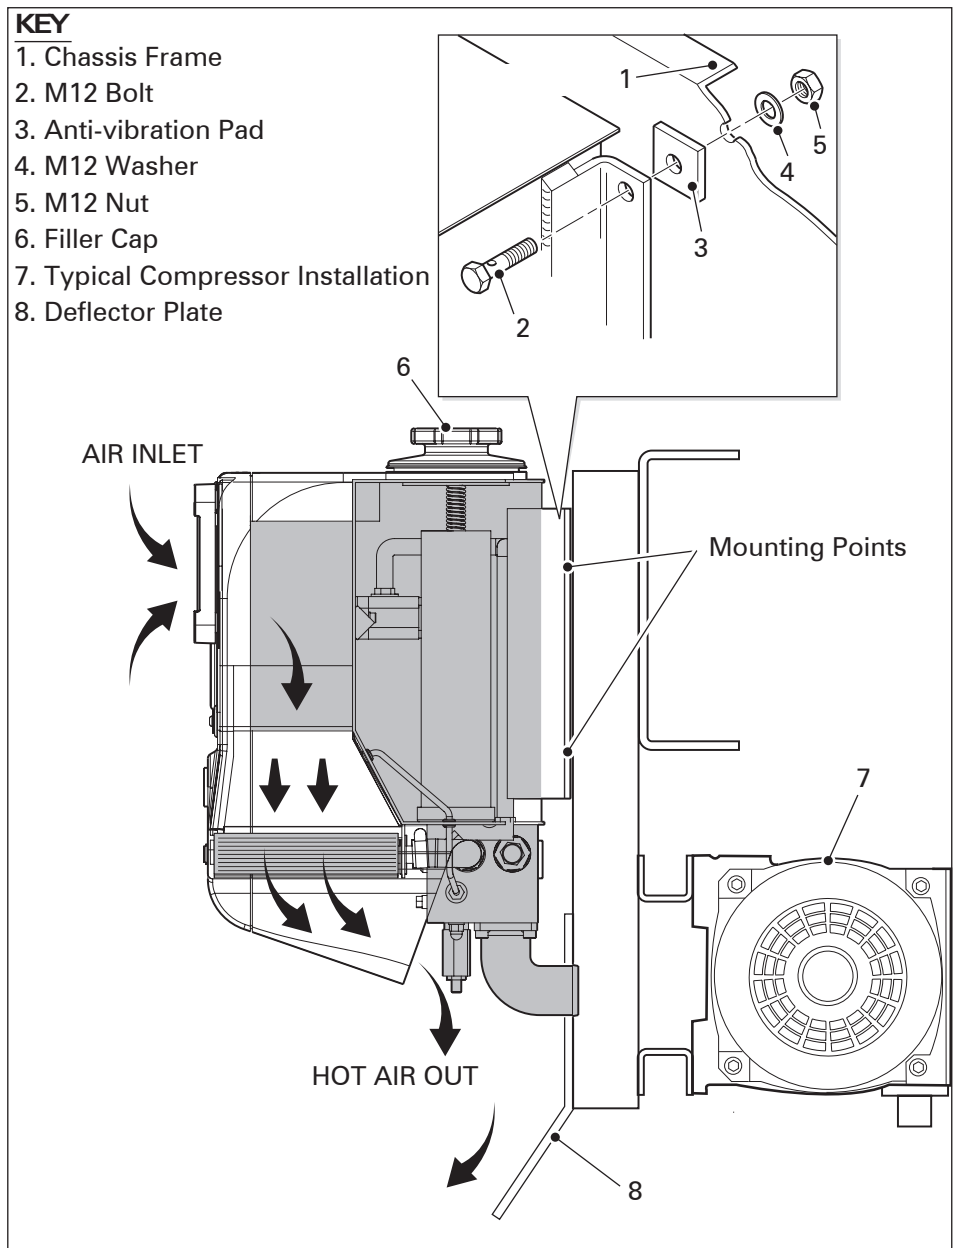

Fig. 2 Airflow direction incorporating typical compressor installation.
3. During installation it is important to make sure that the air inlet and outlet ducts (shown below Fig 2) are not obstructed, allowing a free flow of air for maximum cooling.
5. When the Hydrapak is sharing the same mounting uprights with a compressor it is recommended that a deflector plate is installed to divert the hot air discharged away from the compressor. See Fig 2.